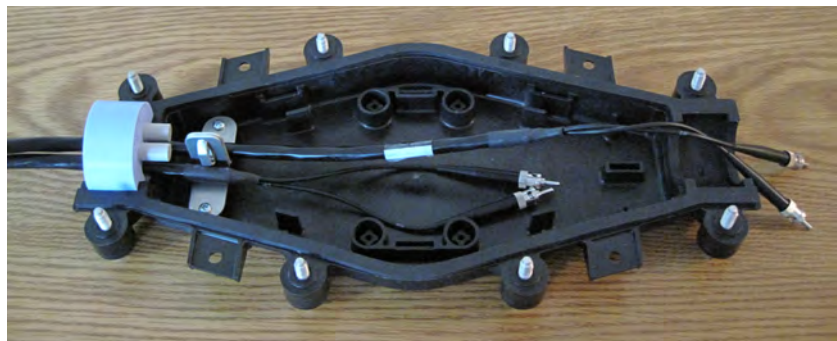

Figure 6 Insert Grommet
Step 6. Insert grommet into the housing and route the cables (see *Figure 6*).